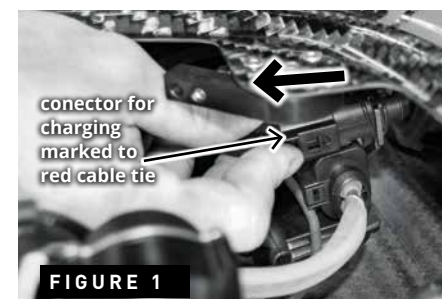

FIGURE 1
1) Disconnect the 2-pin connector (marked with a red cable tie) which is connected in the connector holder – FIGURE 1.